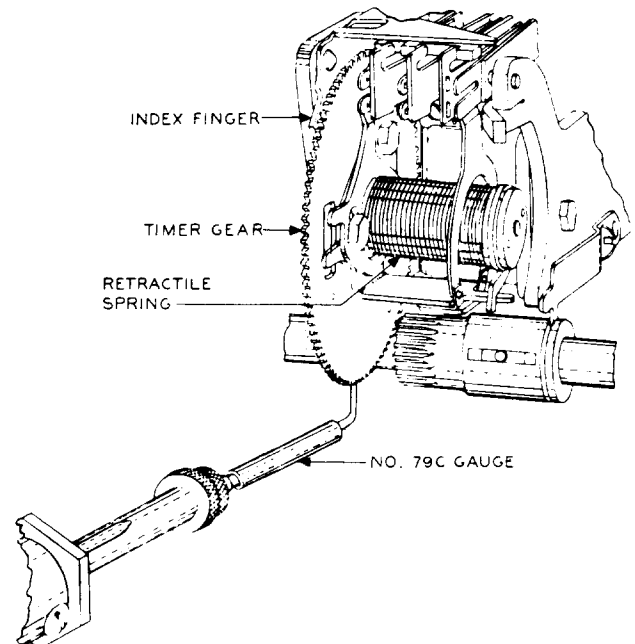

Fig. 18 - Checking Retractable Spring Tension
To check this requirement, proceed as follows. Rotate the gear approximately one quarter of a revolution to operate the tripping mechanism, thus insuring that the spring tension is at a minimum. Allow the gear to restore against its stop. Then apply the gauge to the bottom of the gear as indicated in Fig. 18. Hold the gauge horizontally and apply pressure gradually toward the rear of the timer until the gear moves from its normal position. Continue exerting pressure until the gear has moved from four to six teeth away from the normal position. Note that the pressure required to move the gear is not in excess of the specified 50 grams. Gradually reduce the pressure until the gear restores to its normal position and note that the gauge reading does not go below the value specified until the gear has restored fully against its stop.
- To check this requirement, proceed as follows. Rotate the gear one quarter of a revolution to operate the tripping mechanism, thus insuring that the spring tension is at a minimum. Allow the gear to restore against its stop. Then manually rotate the gear to the point where the front end of the pawl rests on the top of the pawl stop at approximately its center. Hold the gear in this position and apply the gauge to the gear as shown in Fig. 18, applying sufficient pressure to prevent the gear from restoring to normal. Gradually reduce the pressure until the gear starts to move toward the normal position. Check that the gauge reading, as the gear starts to move, is not less than the specified value.